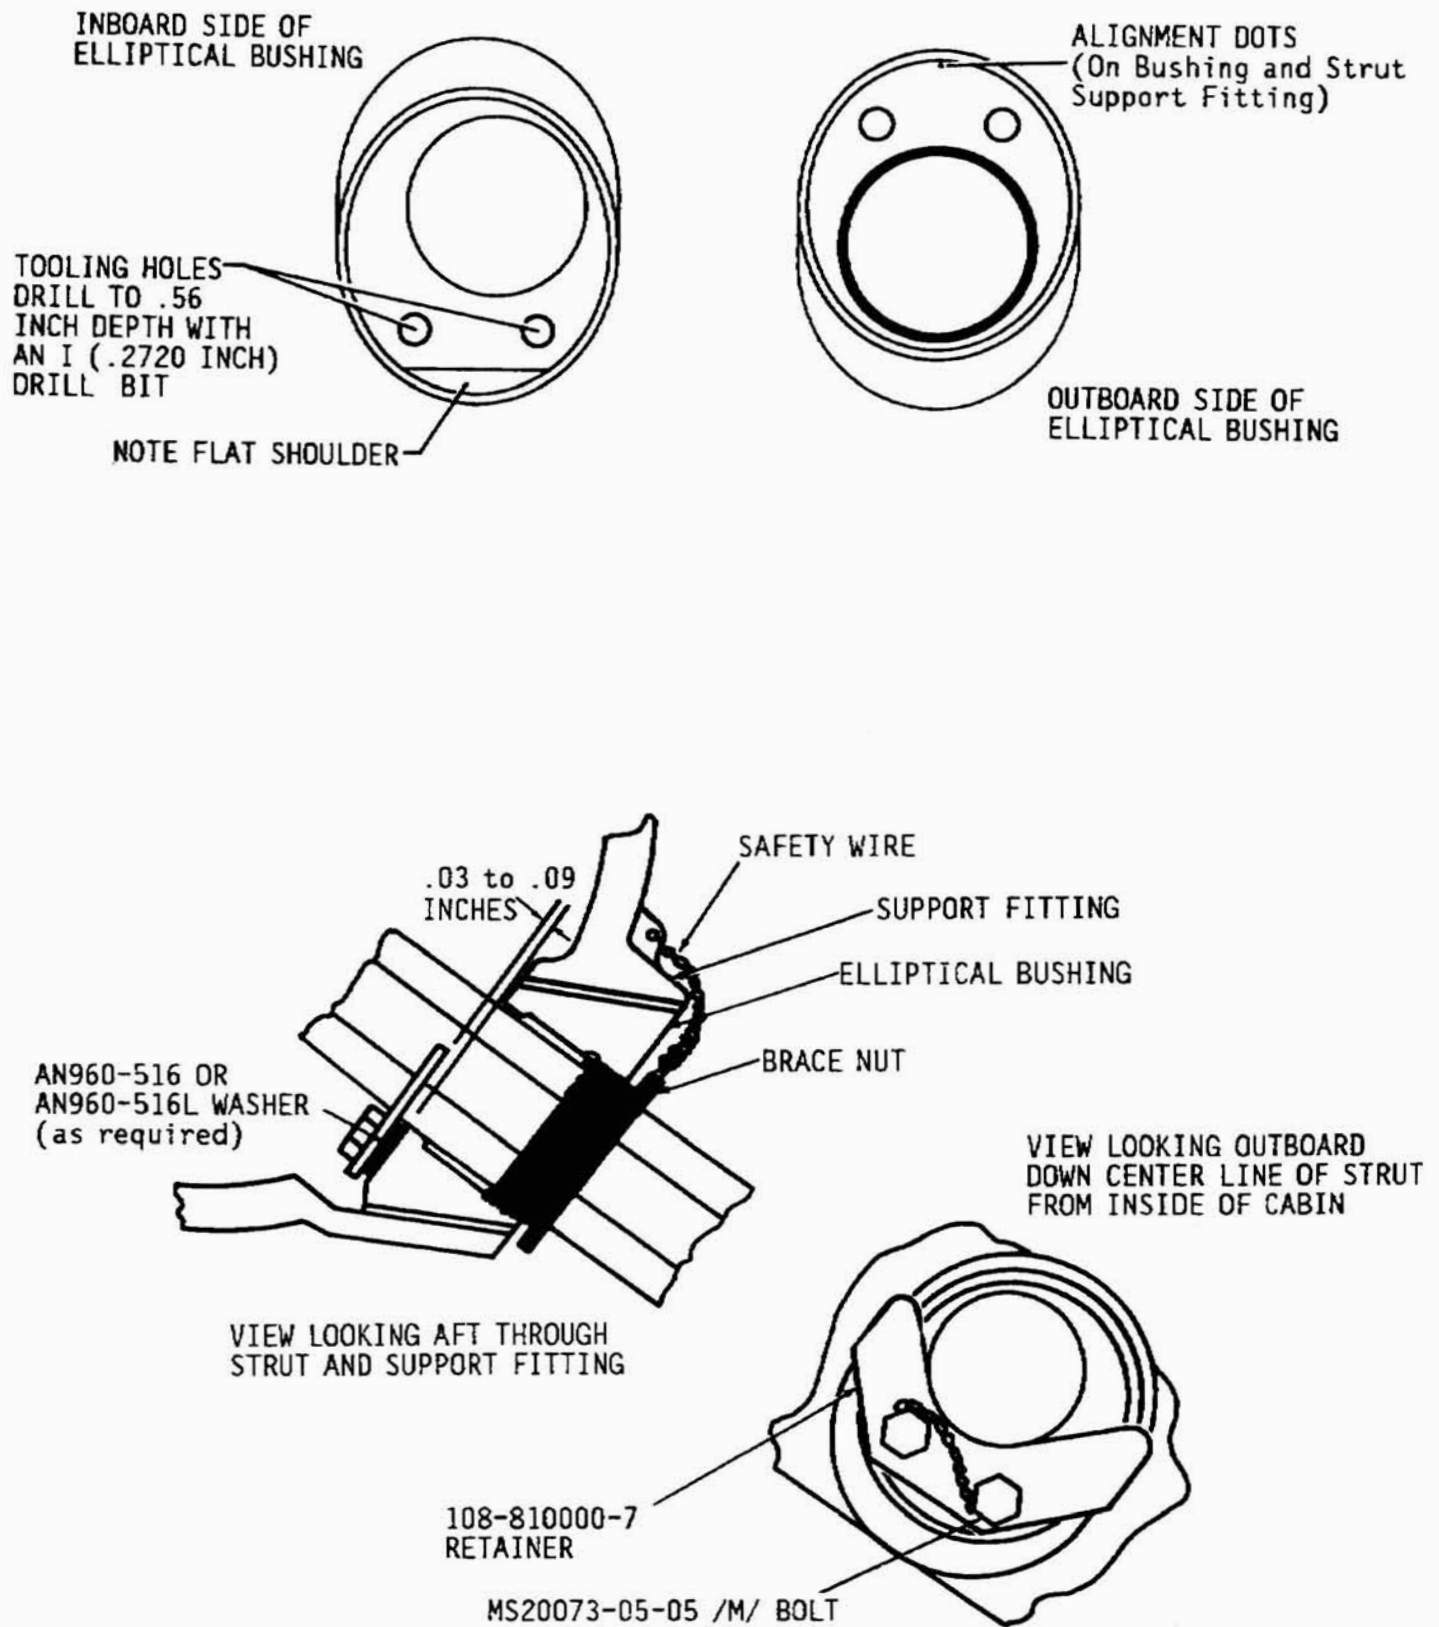

Figure 2
5. Prior to reinstallation of the landing gear struts, check to see if BEECHCRAFT Service Bulletin No. 2003 has been accomplished previously. Service Bulletin No. 2003 modifies the elliptical bushing (Fig 2) by the addition of the bushing retainer contained in Kit No. 77-8003-1 S. If this modification has not been accomplished, remove the elliptical bushings from the fuselage fittings and perform the following:
- a. Locate the two tooling holes in the inboard side of the elliptical bushing. Drill a .2720 inch diameter hole to a depth of .56 inch. Tap the holes to 5/16 - 24 thread, starting with a tapered tap and finishing with a bottoming tap as shown in Figure 2.
- b. When installing the retainer ensure that the alignment dots on the elliptical bushing and strut support fitting are aligned exactly. Using a spanner wrench, torque the P/N 108-810020-3 retainer nut (Fig.2) to 125-150 inch-pounds. Ensure that the alignment dots align after torquing. Safety the retainer nut.
- c. Install a P/N 108-810000-7 retainer as shown in Figure 2 using two P/N MS20073-05-05 /M/ bolts. Place P/N AN960-516 or P/N AN960-516L washers (obtain locally) between the bushing and retainer as required to maintain a spacing of .03 to .09 inch between the retainer and support fitting as shown in Figure 2. Torque the bolts to 56 - 78 inch-pounds and safety.